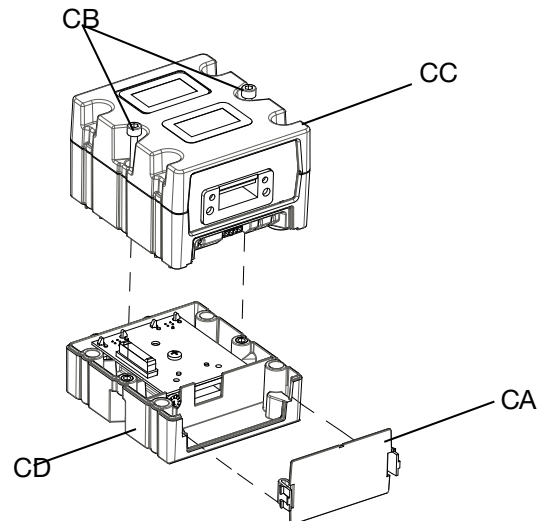

FIG. 34: Disassembling the CGM
5. Remove the access cover from the CGM (CA). Loosen the two screws (CB) and remove the CGM (CC) from the base (CD) as shown in FIG. 34.